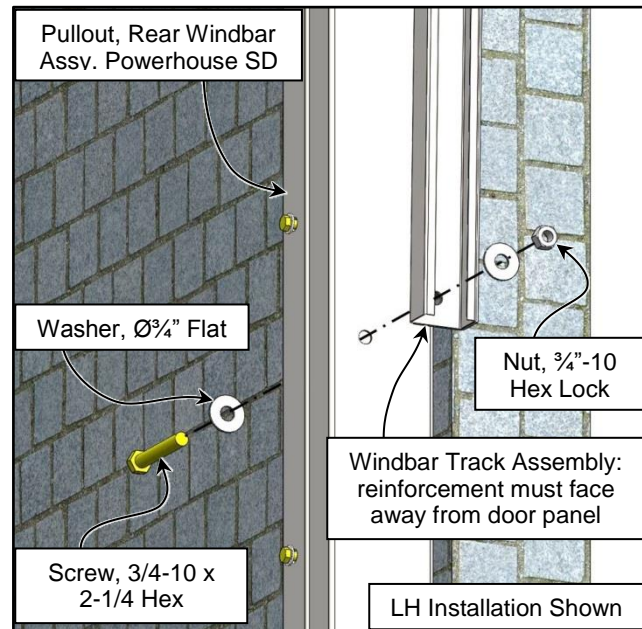

Figure 65
3. Align the bottom holes of the Windbar Tracks with the bottom track mounting holes in the pullouts. Mount the hardware as shown and identical to the previous step. (See Figure 65)
4. Remove the bottom $\frac{3}{4}$ " fastener hardware from the Lower Windbar Track Mounts. (See Figure 65)
5. Guide and raise the Windbar Assembly into the Windbar Tracks and raise it enough to clear the $\frac{3}{4}$ " fastener holes. Re-align the holes of the Windbar Tracks and the rear side column pullouts. (See Figure 65)
6. Reinstall the $\frac{3}{4}$ " fastener hardware as shown. (See Figures 65 and 66)